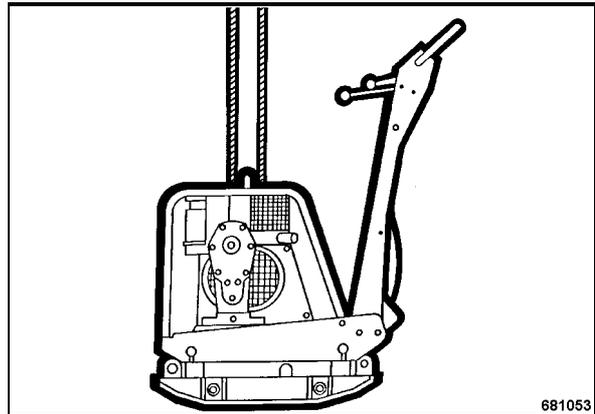

Fig. 48
- Always attach the lifting gear (rope) to the lifting eye to load the vibratory plate on a transport vehicle (Fig. 48).